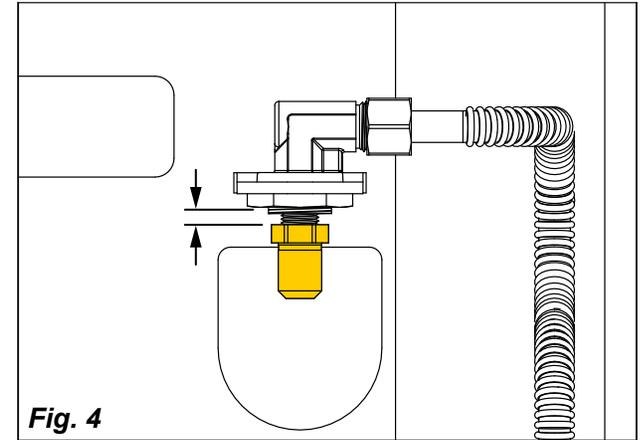

Fig. 4
6. With the burner removed, you can now replace the orifice. Make a note of how many threads you can see at the base of the orifice. Install the new orifice to roughly this same distance. (Fig. 4)